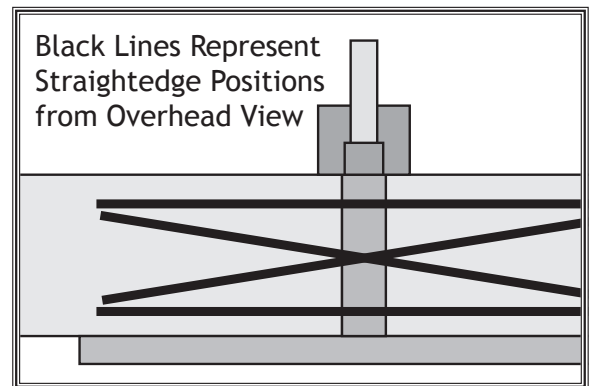

Figure 47. Straightedge positions for checking infeed/outfeed table parallelism.
8. Place straightedge in one of the positions shown in **Figure 47**, and adjust eccentric bushings under infeed table so straightedge lies flat against both tables.